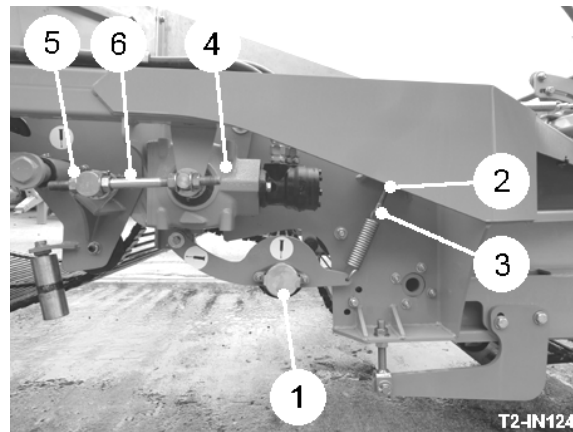

Fig 8
The standard specification machine is fitted with a 1630mm wide, 36mm pitch digger web. A 1500 mm digger web is available as an option. Also, should an alternative pitch web be required to suit particular crop and soil conditions, this will be a special requirement and will need to be discussed with Standen Engineering Limited. The spring-loaded tension rollers (item 1, fig 8) maintain the drive on the return side of the web. To tension the web, loosen the locknuts (item 2, fig 8) and reposition the spring adjuster (item 3, fig 8). Ensure both sides are adjusted equally.
The digger web is driven by the motor gearbox unit (Item 4, fig 8). The  button starts/stops the digger web and the speed is set on the touch-screen.
The drop height from the digger web to the sieving web can be adjusted using the 'Web Split' button on the slave box. The gap between the two webs can be manually set according to the crop size, and the separation required. The gap is adjusted by releasing the locknuts (item 5, fig 8)) and moving the adjuster (item 6, fig 8) until the required gap is obtained. Ensure both sides are adjusted evenly.